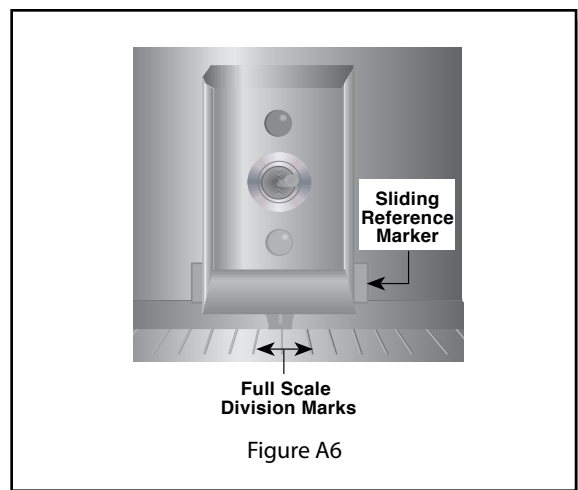

Figure A6
4. Adjust the sliding reference marker, right or left, to the closest full scale division mark (see **Figure A6**).